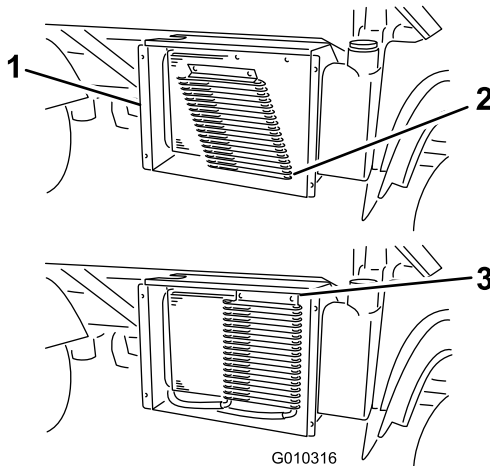

Figure 54
6. If equipped, rotate the latches and pivot the oil cooler away from the radiator (**Figure 54**).